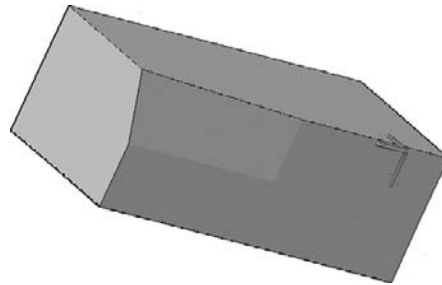

FIGURE 27.31
- **Collapse Face or Edge.** This tool, found under the Ribbon's Mesh→Mesh Edit, makes a selected face or edge disappear on a shape, with the remaining ones closing ranks around the void, as seen in Figure 27.31 with a mesh box.